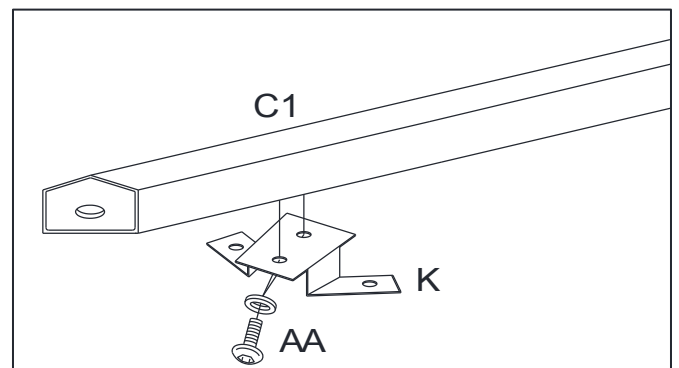

Fig.7.2
7.2. Attach Top Connector (K) to Long Top Bar (C1) with Bolt (AA). See Fig.7.2.